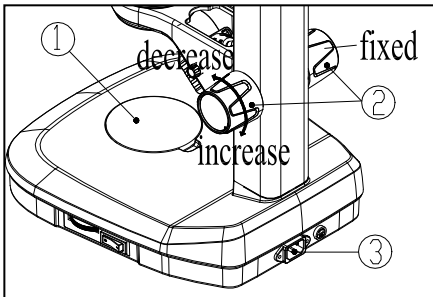

Fig 1
Holding left& right focusing knob ② with both hands(Fig 1), then fixed left focusing knob, rotating clockwise the right focusing knob, Strain can increase otherwise decrease.
1. Plug in power cable in socket ③ (Fig 1), turn on the power.